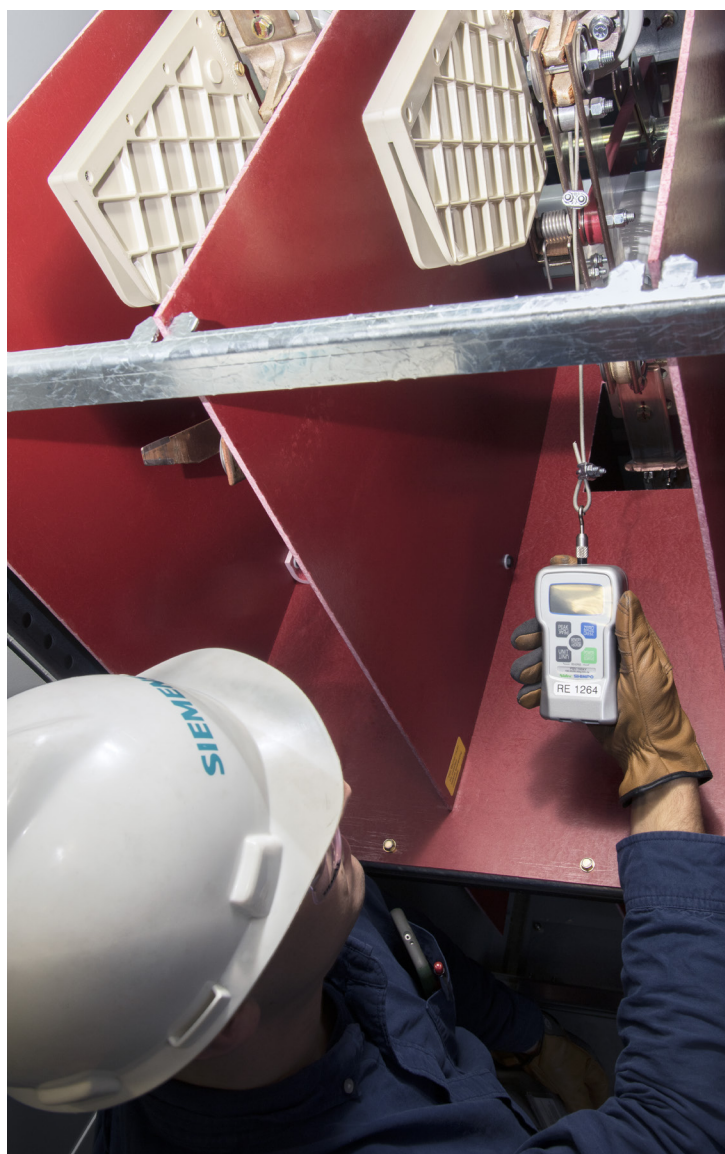

Figure 69: Use of spring scale for switch blade adjustment
1. Disconnect the pushrods by removing the cotter pins and clevis pins that connect pushrods to the operating arms of each pole of the switch (refer to Figure 63). Open the load-interrupter switch until the quick-acting blade just clears the arc chute and connect a spring scale to the main blades approximately 1-1/2" below the jaw contact as shown in Figure 69.